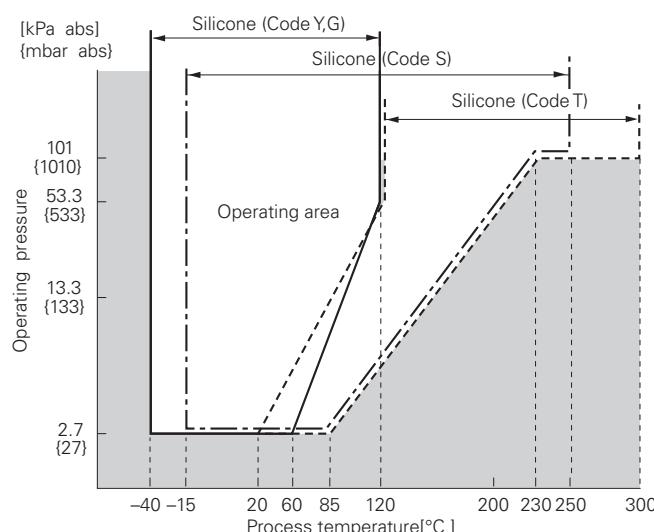
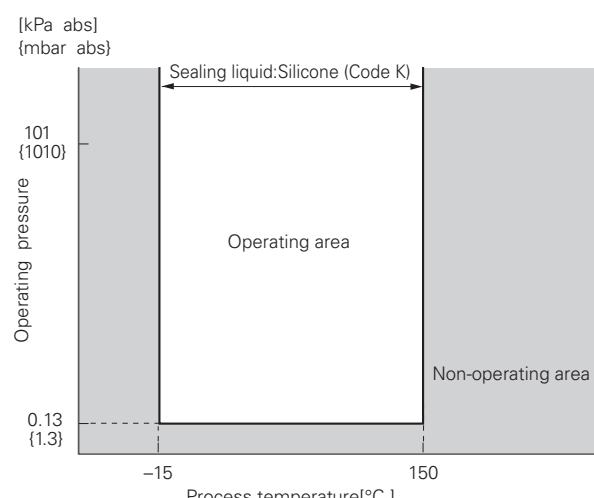

Fig. 1 Relation between process temperature and operating pressure
Fig. 2 Relation between process temperature and operating pressure
**Vacuum service:** Special silicone oil and filling procedure are applied. See Fig.1 and Fig.2